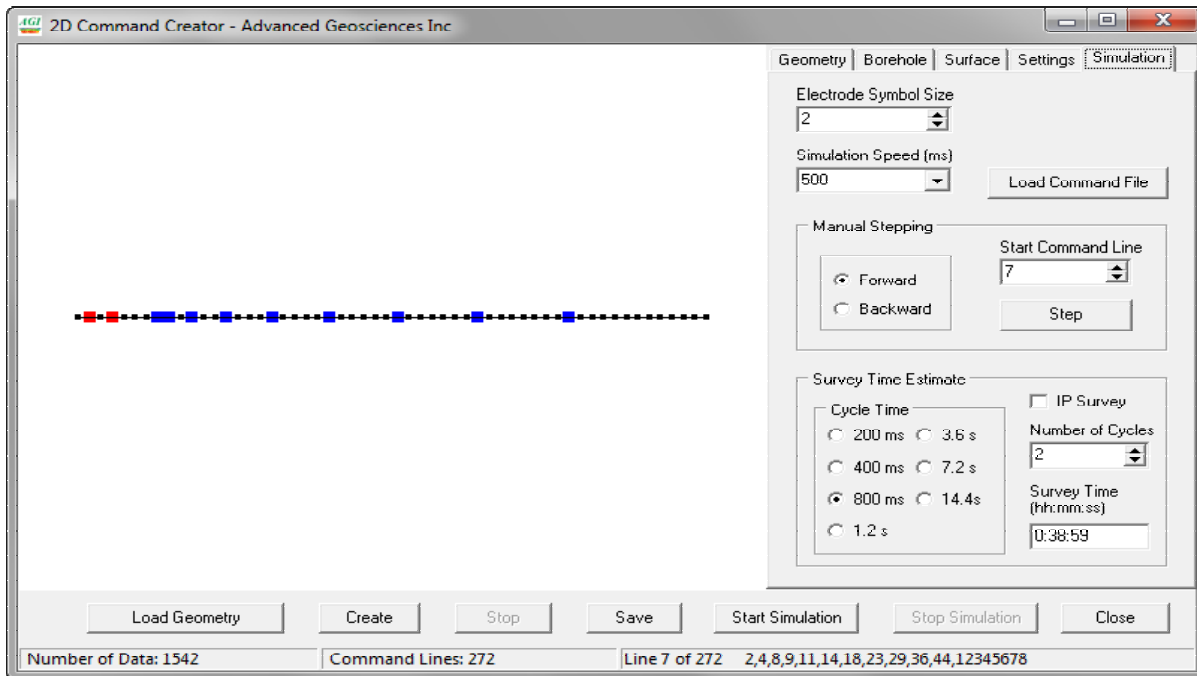

Figure 11: Simulation of the command file execution with EarthImager2D
8. Click the **Simulation** tab to view the execution of the command file (See Figure 11). You can see the estimated survey time based on the number of possible cycles and measurement times implemented.